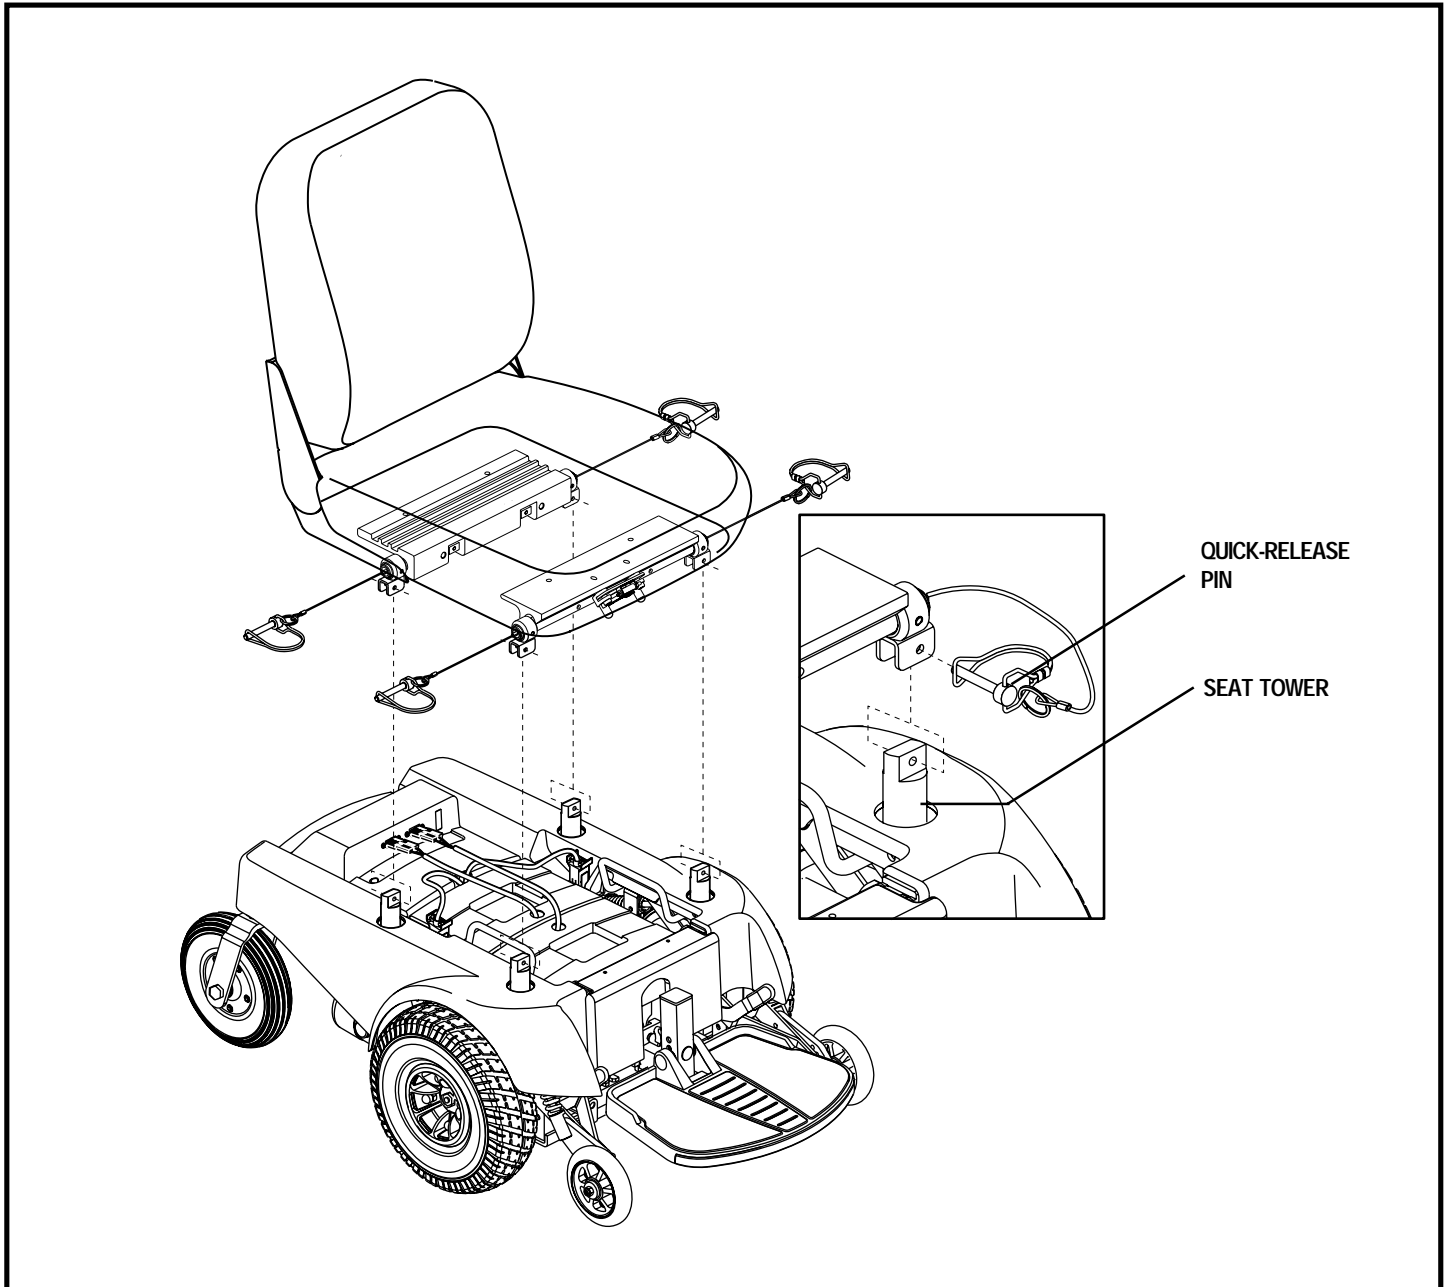

Figure 14. Seat Installation/Removal
2. Remove the quick-release pin from each seat tower. See figure 14.
3. Remove the quick-release pins that attach the trapeze bars to the seat towers. See figure 14.